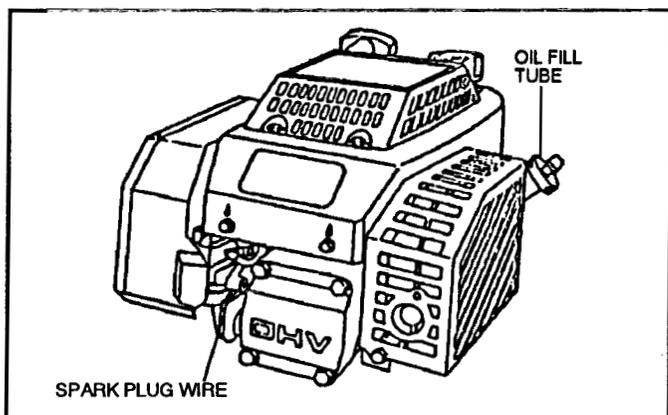

Figure 4
1. Stop the engine, allow it to cool and disconnect the spark plug wire. See Figure 4.